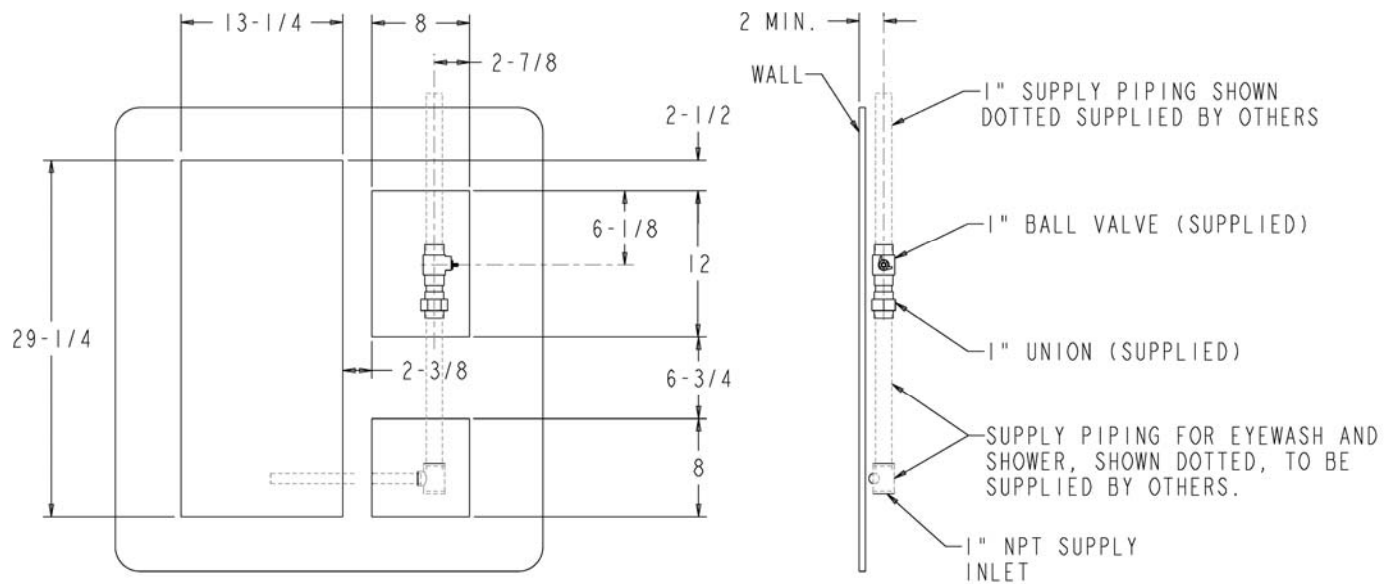
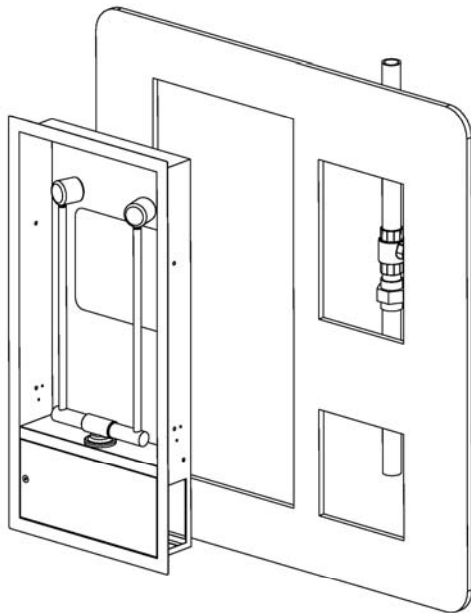
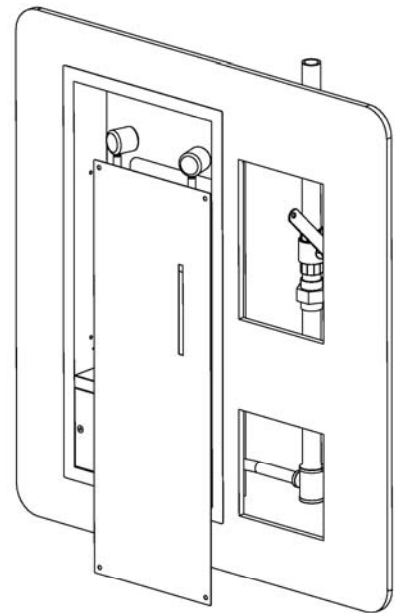

FIG. 1
FIG. 2A
FIG. 2B
1. Once desired location & spray head height is determined cut openings in the wall for the eye/face wash & emergency shower per the minimum dimensions shown in Fig. 1, making sure there are suitable structures (stud, etc.) on each side of the eye/face wash opening for securing the eye/face wash cabinet to the wall.
2. Making sure unit is level, use appropriate fasteners (4) to secure unit to wall as shown in Fig. 2A & Fig. 2B.
3. Plumb the eye/face wash & emergency shower ball valve (supplied) as shown in Fig. 2A & Fig. 2B, and the required water supply piping (supplied by others). For smooth activation, make sure that when final union connection is made that the stainless steel activation lever handle is as close to perpendicular to the finished wall as possible. Use pipe dope or thread sealant on all pipe thread connections (not union connections). The eye/face wash is supplied with a 1/2" NPT inlet, and requires a minimum 30 PSI flowing water pressure, and the emergency shower is supplied with a 1" NPT inlet. Shown in fig. 1 as dotted lines is the recommended piping configuration for a single water supply inlet. **NOTE: water supply to the unit to be an uninterrupted source of potable water. Failure to use potable water can result in emergency units producing impure or contaminated water causing possible further injury**
REFERENCE FIG.1, FIG.2, AND ROUGH-IN